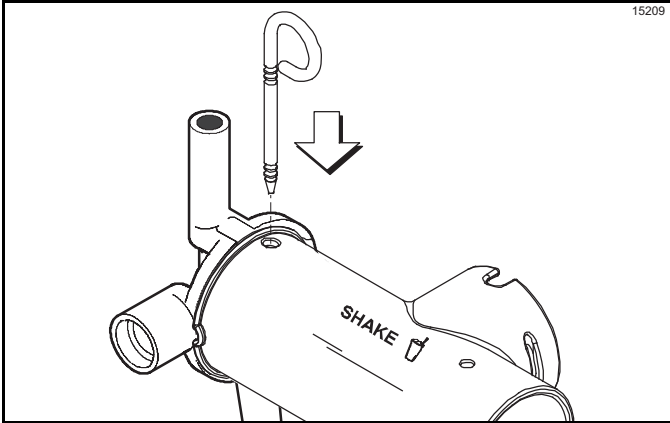

Figure 6-30
9. Secure the pump parts in position by sliding the retaining pin through the cross holes at one end of the pump cylinder. (See Figure 6-30.)